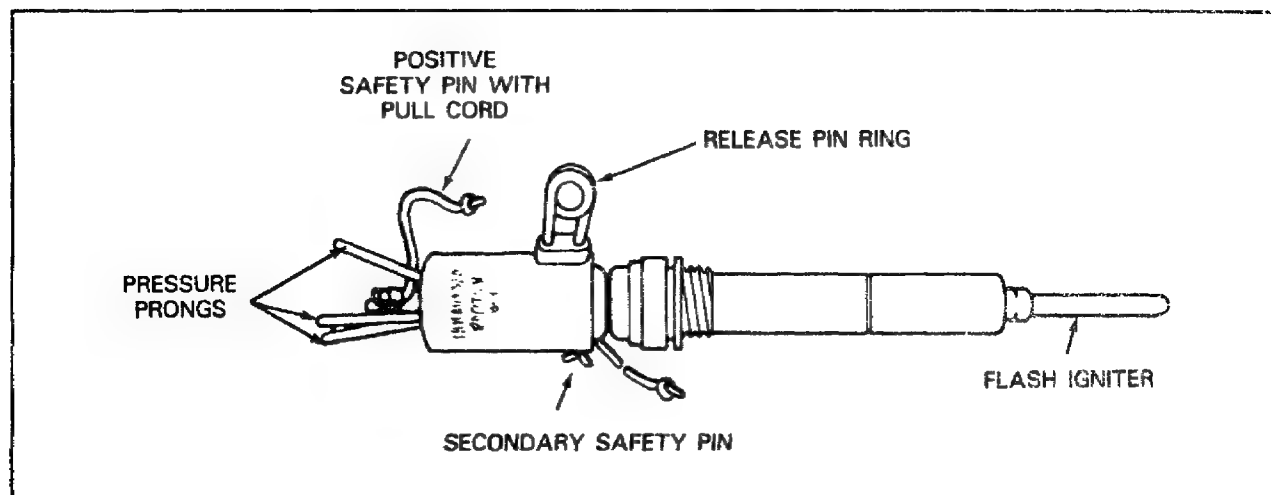

Figure 62. Combination Mine Fuze
**Combination Mine Fuze.** The combination mine fuze (Figure 62) functions by pressure on the three prongs on top or by a trip wire attached to the release pin ring on the side. Some combination mine fuzes are equipped with a flash igniter that activates the mine. The combination fuze is easily identified by its three pressure prongs and the release pin ring.